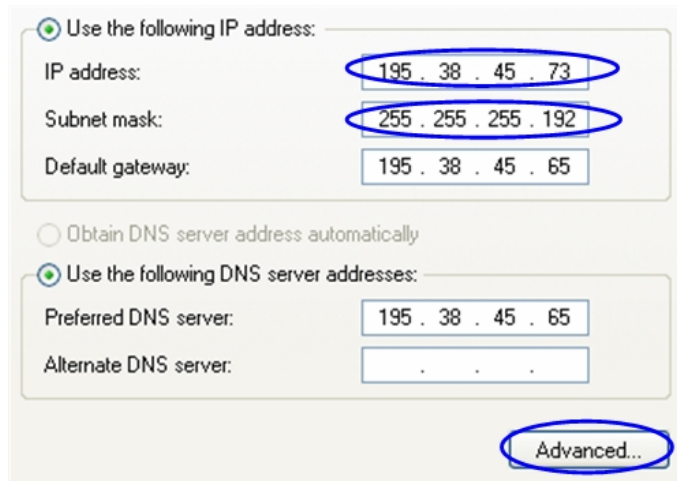
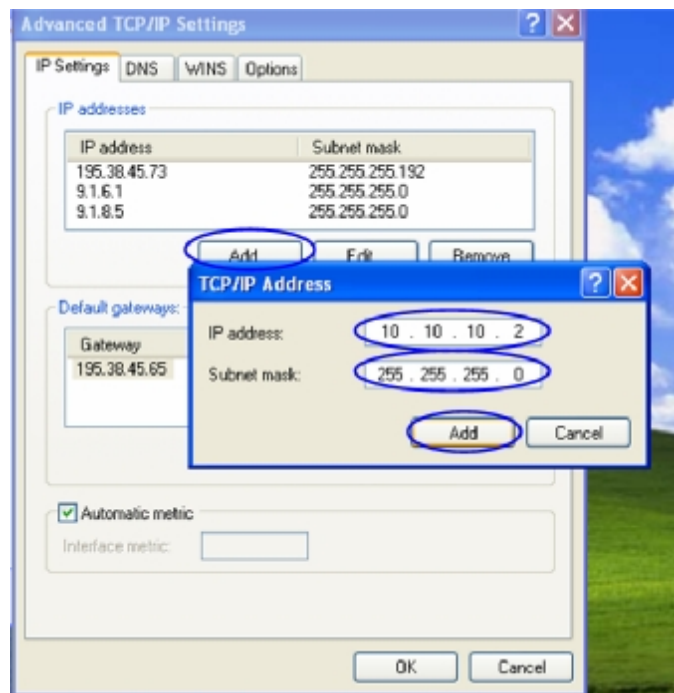

Figure 14. Change IP-address
Figure 15. Create alias
5. If you want to connect to the router using PC/Laptop you can just change an IP-address on the Ethernet adaptor to some address from 10.10.10.0/24 network (e.g. change "IP-address" field to "10.10.10.2" and "Subnet mask" to "255.255.255.0"). After that click OK and move to step 7. See Figure 14
- If you are in a LAN and you do not want to change your primary IP-address so you could keep LAN connectivity, you can assign an alias. In order to do that, press "Advanced..." button (Figure 14). In "Advanced TCP/IP Settings" click "Add" and put alias IP-address and mask (e.g. "10.10.10.2" and "255.255.255.0" correspondingly). See Figure 15. Click OK in all windows opened in the described procedure.